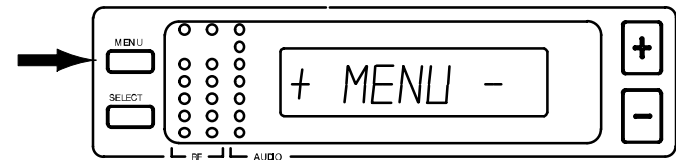

FIGURE 29
- Press the MENU button. The + MENU - display will appear, as shown in Figure 29.